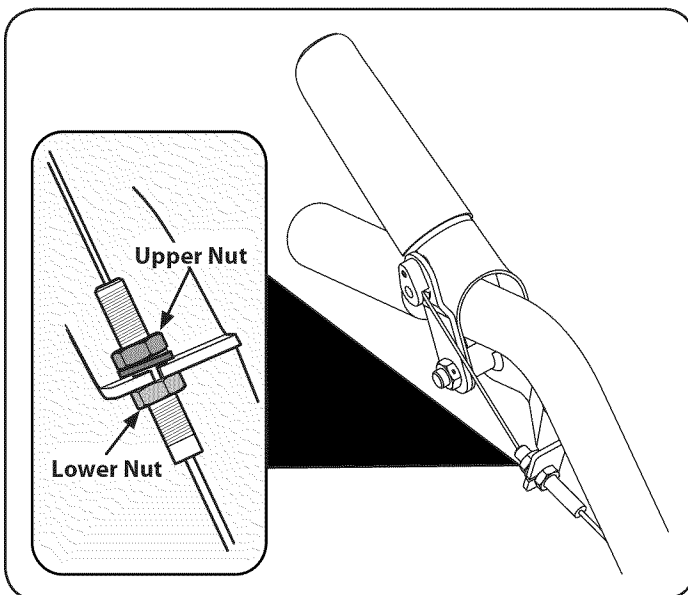

Figure 9
- If the belt turns without the clutch control engaged, unthread the upper nut and adjust it by unthreading lower nut a few turns clockwise (when standing in the operator's position) and then retighten the upper nut against the cable bracket. See Figure 9.
- If the wheels do not spin with the tiller in forward, loosen the upper nut and adjust by tightening the cable a few turns counter-clockwise (when standing in the operator's position) and then retighten the upper nut against cable bracket. See Figure 9.